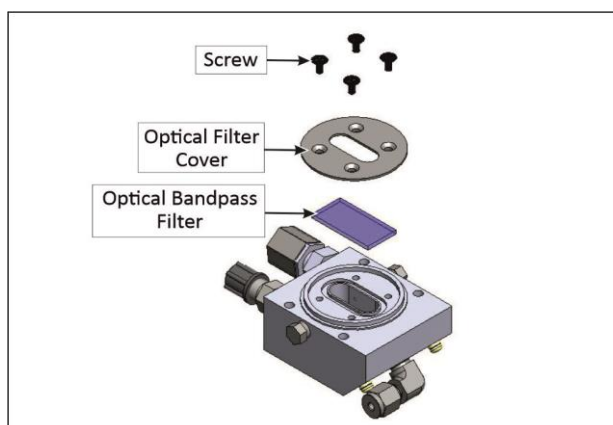

Figure 134 – Optical Bandpass Filter Removal and Cleaning
8. Turn the reaction cell upside down and remove the four screws fastening the optical bandpass filter cover (refer to Figure 134).